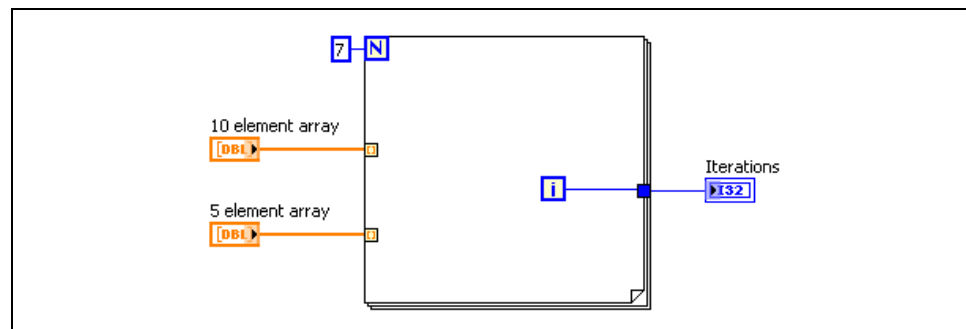

Figure 4-28. What is the Value of the Iteration Indicator?
2. You have two input arrays wired to a For Loop. Auto-indexing is enabled on both tunnels. One array has 10 elements, the second array has 5 elements. A value of 7 is wired to the Count terminal, as shown in Figure 4-28. What is the value of the Iterations indicator after running this VI?